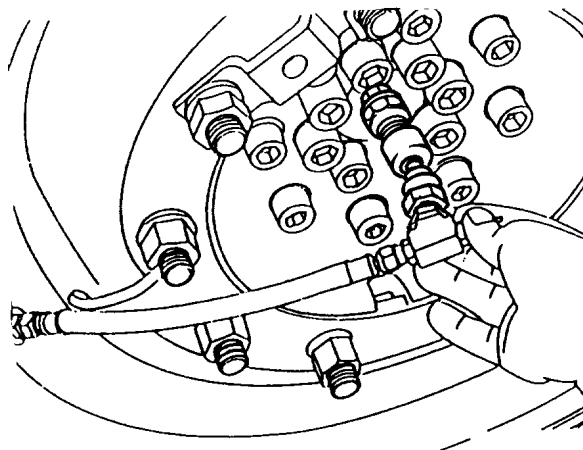

Figure 222 - CTIS Quick Disconnect Coupling - Removal
- (3) Remove the wheel hub covers on the front axle and disconnect the CTIS quick disconnect couplings at the wheel hubs (Fig 222).